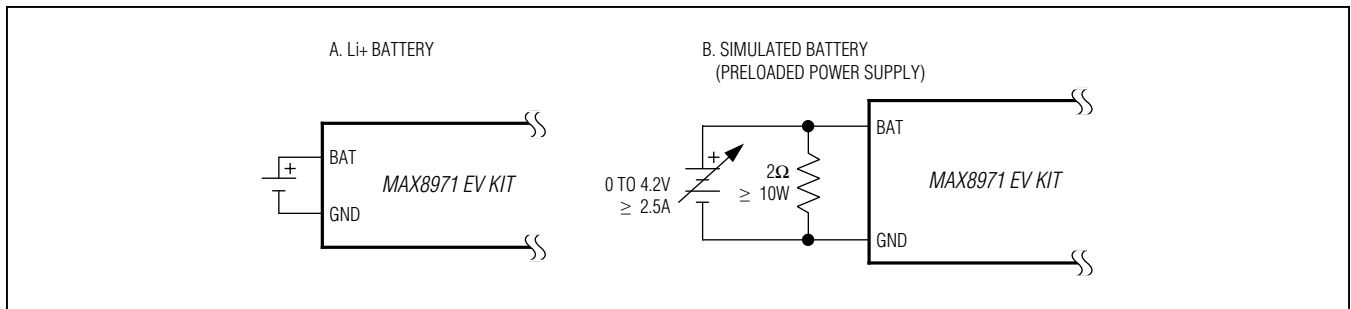

Figure 4. Battery Options for Evaluating the MAX8971 EV Kit
- Battery or simulated battery (Figure 4)